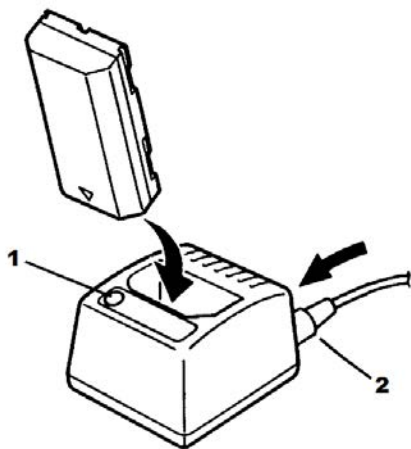

Figure 4. Battery Charger Diagram
- Plug the output of the AC adaptor into the input jack on the rear of the battery charger noted in figure 4.
- Simply place the battery pack into the charger pocket as displayed in figure 4. Ensure that the two gold contacts on the battery pack are placed face down into the pocket.